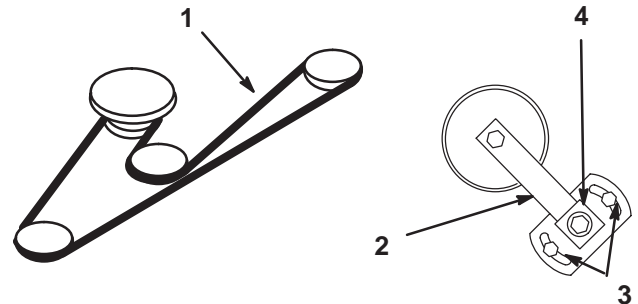

Figure 57
3. Loosen two nuts securing idler plate and move the idler arm to relieve belt tension on the idler pulley, then remove the worn deck belt (Fig. 57).
4. Install the new deck belt around the spindle pulleys, belt guide, the idler pulley, and in the lower groove of the center spindle pulley (Fig. 57).